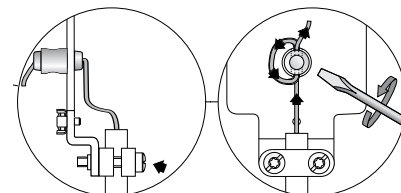

Figure 6: Cable Shortening
4. Loosen (2X) torx screws located on lower cord grip. [Figure 6]